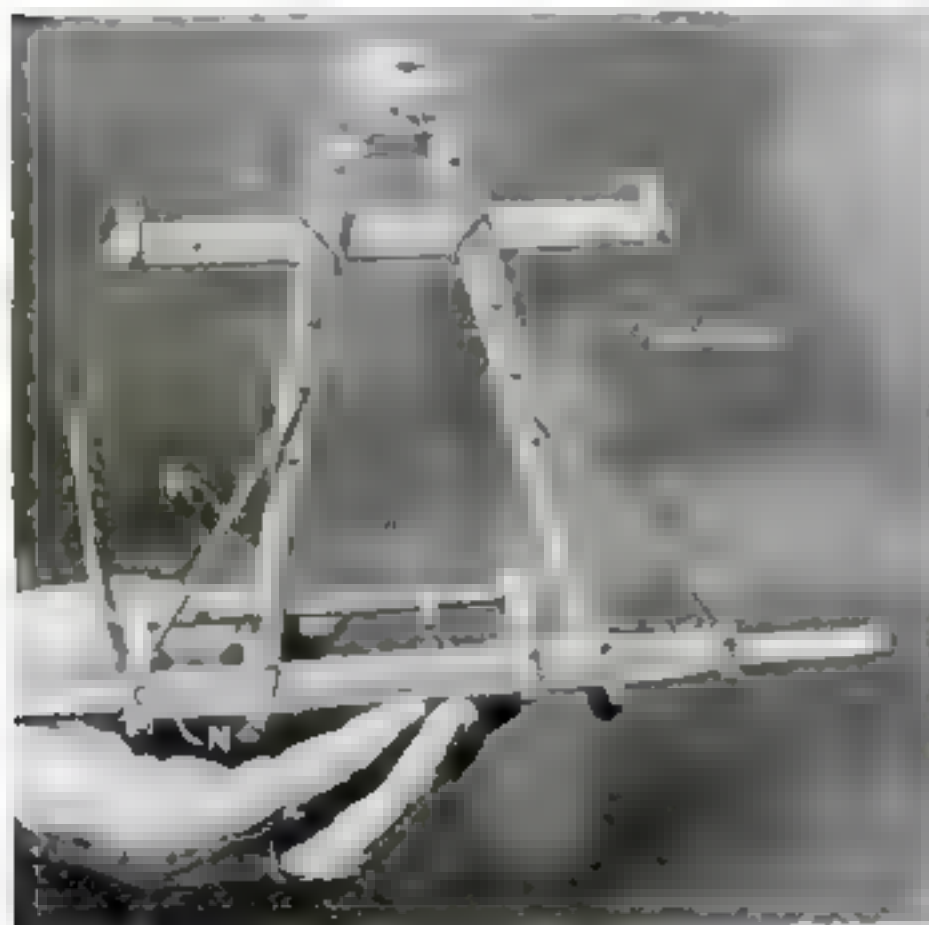

Fig. 4. Bottom view of the hind hounds *H* and rear axle *N* assembly. The rear bolster *C* is not shown, since it is entirely hidden by the axle *V*.
HOUNDS. *Head (H):* Glue and brad together at the forward ends with the spacer block J between. Bolt on the binding plate and upper iron, and add to the underside the reach iron J. Notch above and below for the bolster and axle, and glue and nail these in place. Make irons as shown in Figs. 4, 5, and 9.
BRADF. *Rearm:* The short throw lever shown in Fig. 4 is bound forward, painted with aluminum paint, secured with brass Sec C in Figs. 2 and 9.
Lever: The short throw lever shown in Figs. 4, 5, and 9 is bound in place with wire before soldering. Be sure that the joint is clean before applying the wire binding, flux, and solder.